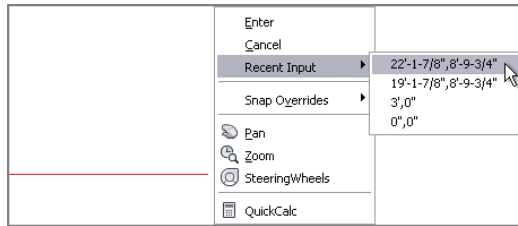

FIGURE 2.15 Drawing a new line from the end of the previous line
- Right-click in the drawing canvas, and hold (for longer than 250 milliseconds) to open the context menu. Select the first coordinate value from the Recent Input menu (see Figure 2.15). You will use the last point entered as the first point in a new line. A rubberband connects the right end of the horizontal line to the cursor.